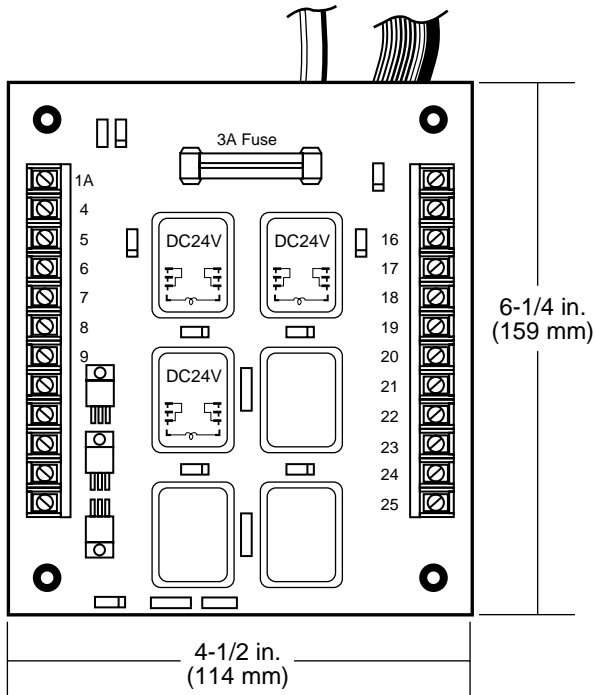

Figure 3-6.2
3-6.2 Relay Module. The Relay Module, figure 3-6.2, includes all of the control, alarm and shutdown relays that are required to make up the generator engine control. Relays are available for operation on either 12 or 24 volt battery systems. Three (3) relays are included for: